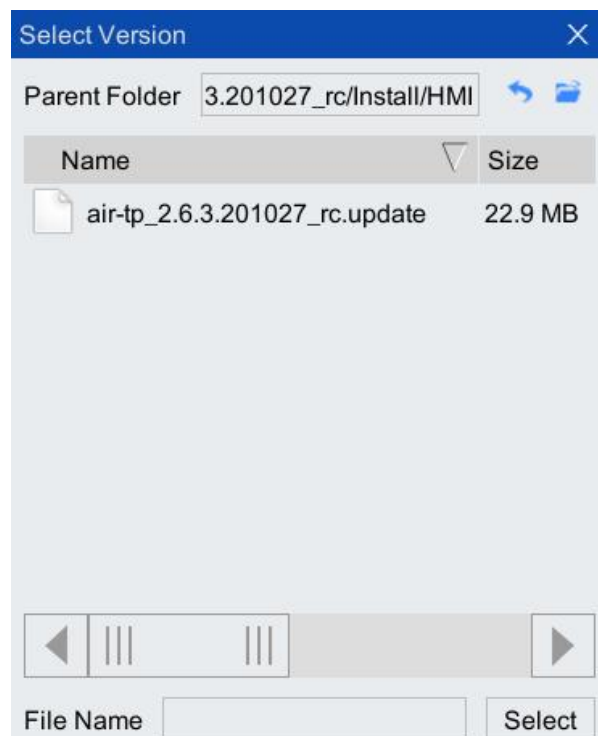
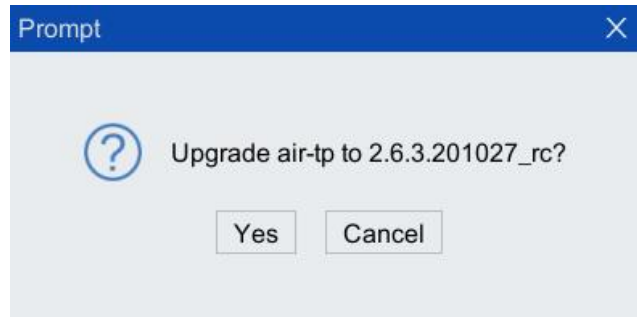
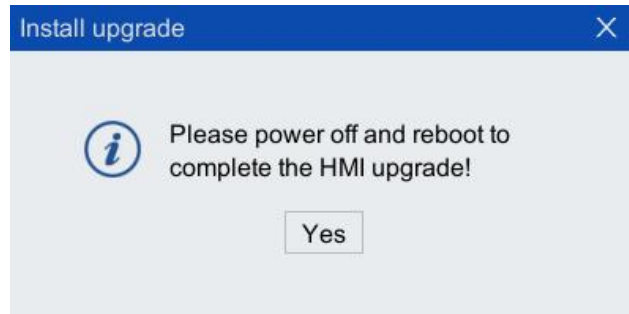

Figure 8-37 Path where HMI upgrade file is located
Figure 8-38 "Upgrade HMI to the corresponding version" dialog box
Figure 8-39 "Power off and restart to complete HMI upgrade" dialog box
- Step2. As shown in Figure 8-37 switch the path to the path where the HMI upgrade file is located, select the HMI upgrade file, click <Select> button to pop up "Upgrade AIR-TP to ****?" dialog box in Figure 8-38, and click <Yes> button. When "Please power off and reboot to complete the HMI upgrade!" dialog box in Figure 8-39 pops up, click <Yes> button to restart the control cabinet to complete the HMI upgrade.